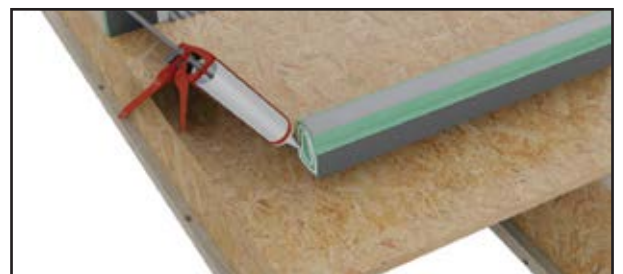

Fig. 16
5. Apply a generous amount of Joint Sealant to the Wallboard face where the Curb will be located and each end of the Shower Curb as shown in Fig. 16.